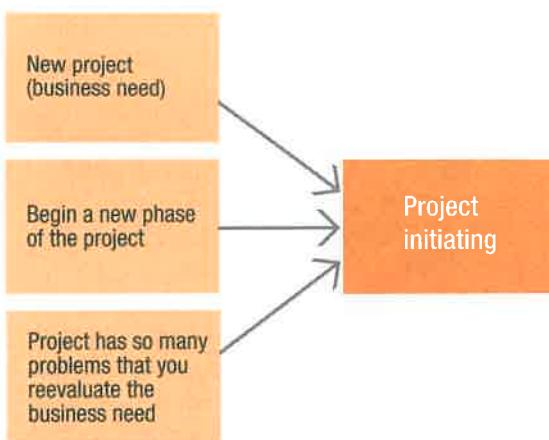
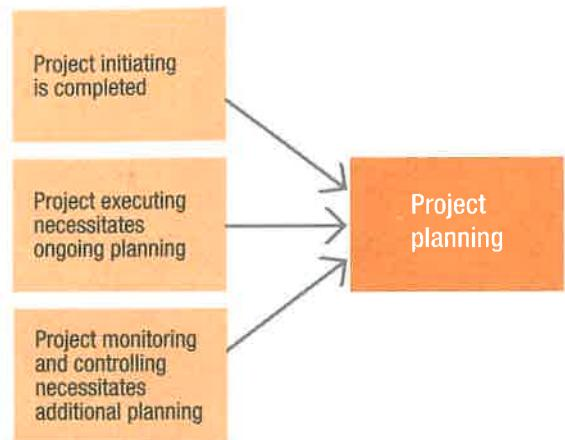

FIGURE 3.6 Reasons for entering project initiating
FIGURE 3.7 Reasons for entering project planning
- The single dotted arrow returning from monitoring and controlling to initiating indicates that, under certain limited circumstances, you may enter initiating once you leave it (see figure 3.6).
Figure 3.6 illustrates the reasons for entering project initiating. Figure 3.7 shows the reasons for entering project planning.